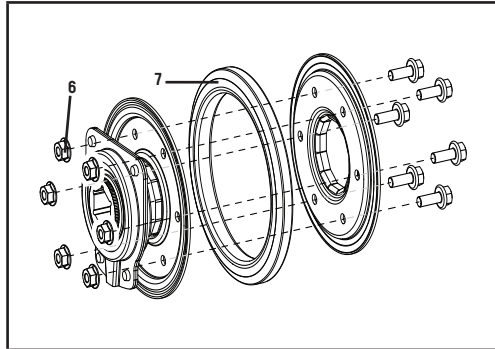

Figure 45
- Unscrew the six M6 × 16 bolts (6) of the friction disc assembly to discard the worn friction wheel rubber ring (7) and replace with a new one (Fig. 45).